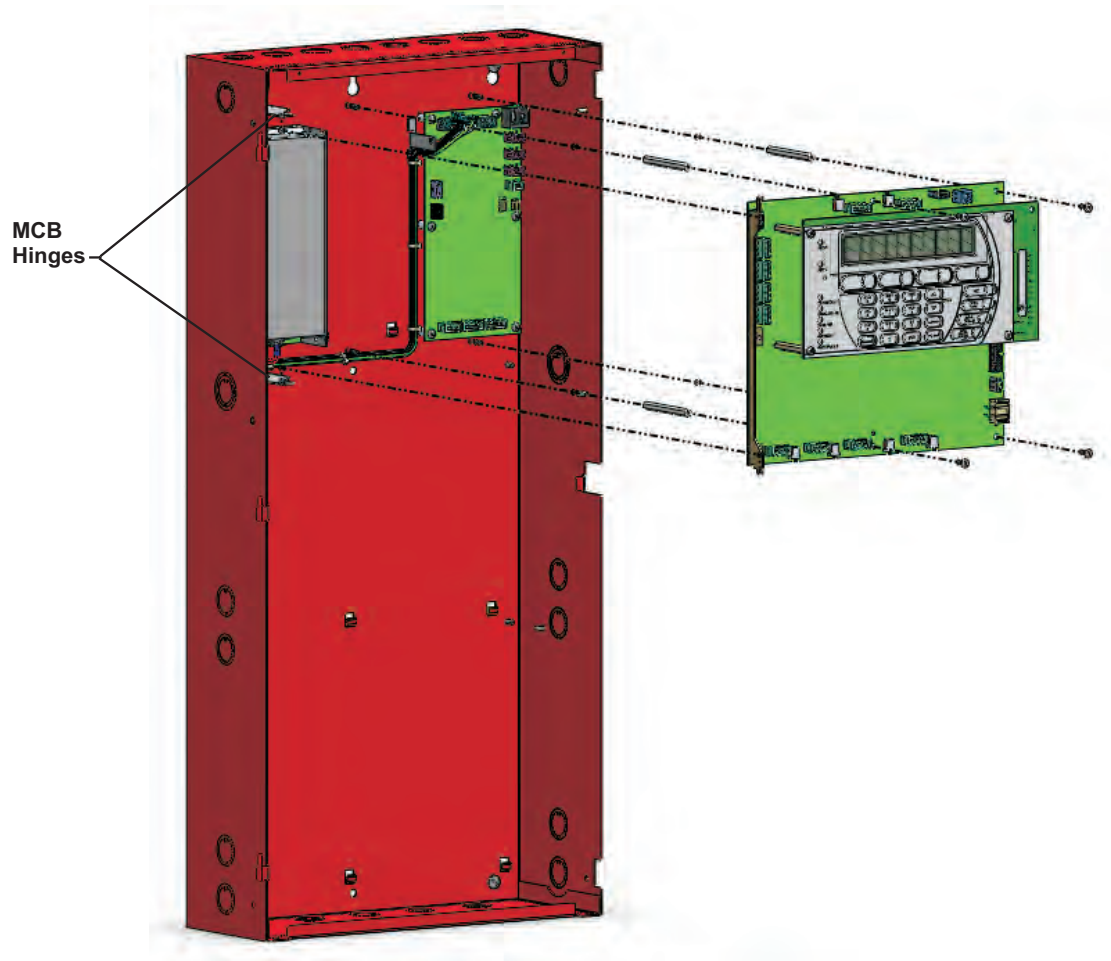

Figure 2-14. Installing A Main Controller Board with Keypad/Display into the Enclosure Top Tier
4. Locate the four 2-1/4 in. aluminum standoffs in the hardware kit and, using a nut driver, screw one securely into each of the four threaded studs in the back surface of the enclosure. Refer to Figure 2-14.